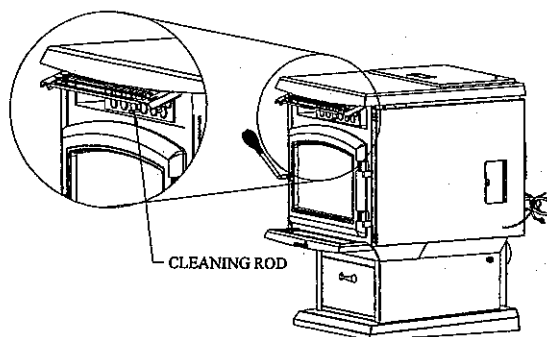

FIGURE 19
- Heat Exchange Tubes** – Your BIO-45 MF stove is designed with a built-in heat exchanger tube cleaner. This should be used weekly to remove accumulated ash on the tubes. To clean the heat exchanger, open the door and grab the cleaning rod located behind the louvers (just above the stove's door) and push it forward. Close the door. Slide the cleaning rod back and forth two or three times from front to back (refer to figure 19). When finished, push the cleaning rod back in, behind the louvers.